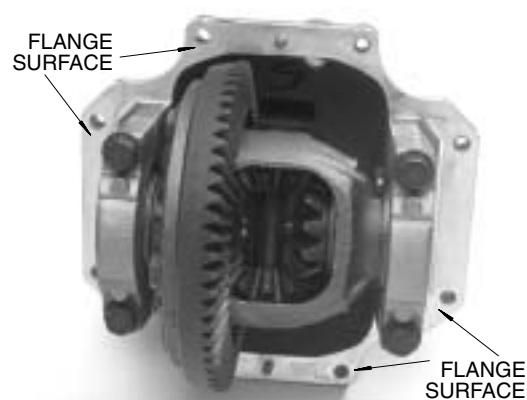

Figure 59
15. Make sure flange surface of carrier assembly (15) is clean and free of any sealant, dirt, and oil. Apply thin bead of non-acidic silicon sealer along the entire flange surface of the carrier assembly (Fig. 59).